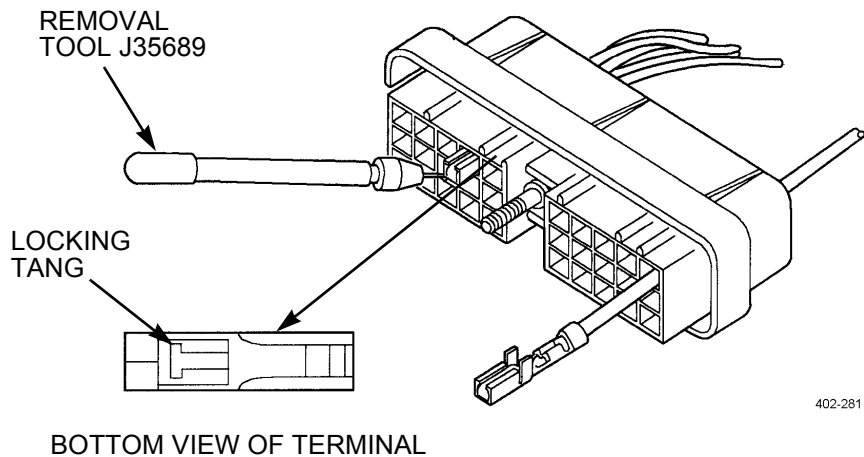

Figure 6. Terminal Removal.
- (1) Insert removal tool into cavity of connector, placing tip of tool between locking tang of terminal and wall of cavity (Figure 6).